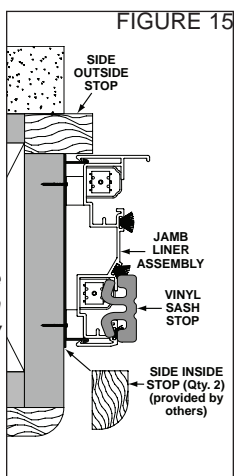

FIGURE 15
17. Arrange jamb liner assembly so angle at bottom matches sill slope. Align jamb liner to fit over jamb liner clips. Push liner snugly against window side frame, compressing foam, until vinyl liner snaps into jamb liner clips. Ensure that each clip is fully engaged (FIGURE 15).
20. Re-install side inside stops (FIGURE 15). If old ones were damaged, obtain and install new ones. Install snugly (but not too tight) against new jamb liner assemblies.